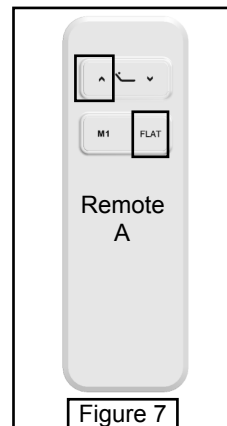

Figure 7
- Using the same remote, simultaneously press the HEAD UP and FLAT button for 3-5 seconds (see figure 7).